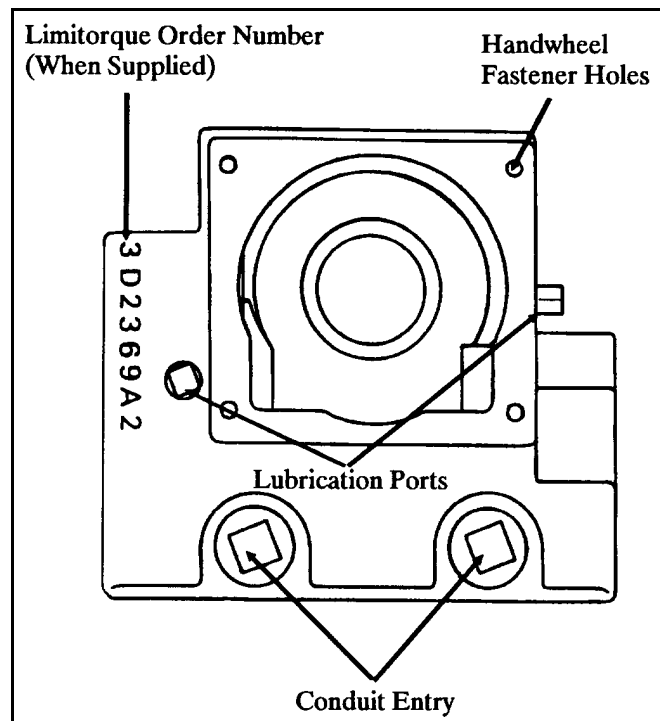

Figure 4-30 Gear Box Grease Removal
13. Gearbox Grease Removal Refer to Figure 4-30